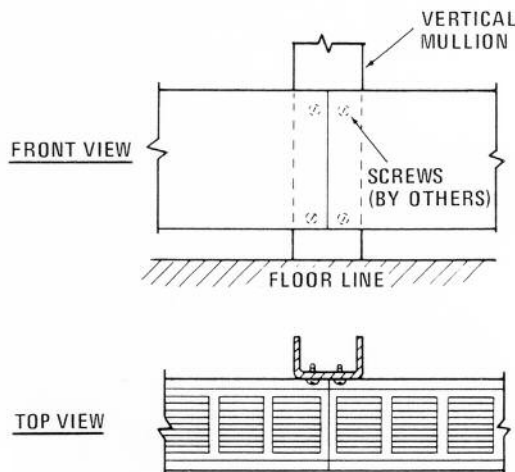

Figure 6
1. Attach the housing to the mullion using the mounting holes provided in the junction boxes as shown in Figure 6.